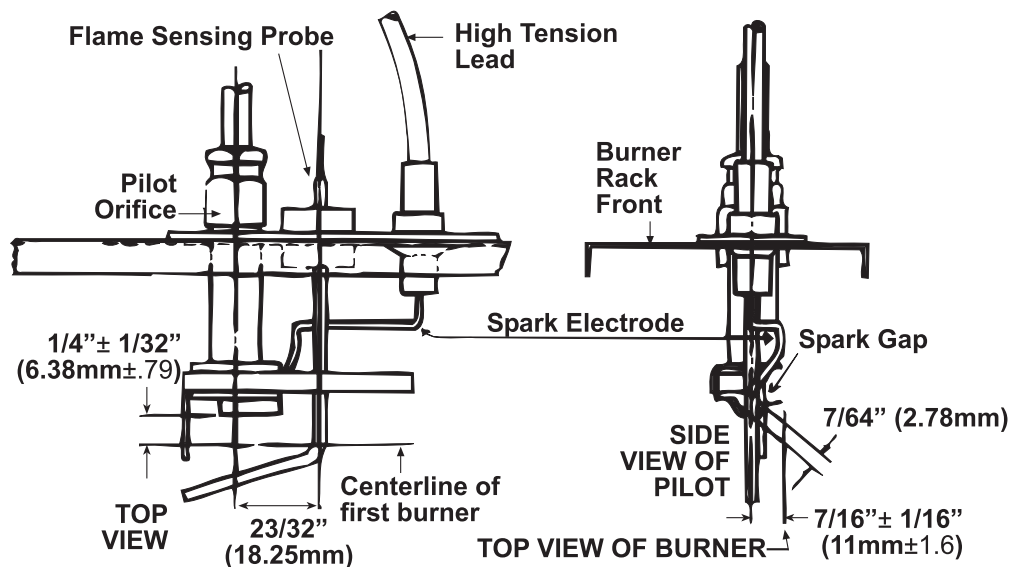

Figure 22. Pilot Assembly Spark Gap
4. Check the spark gap (see Figure 22), which should be maintained to 7/64 inch.
- c. Verify that pilot spark gap (see **Figure 22**) is approximately 7/64 inch.